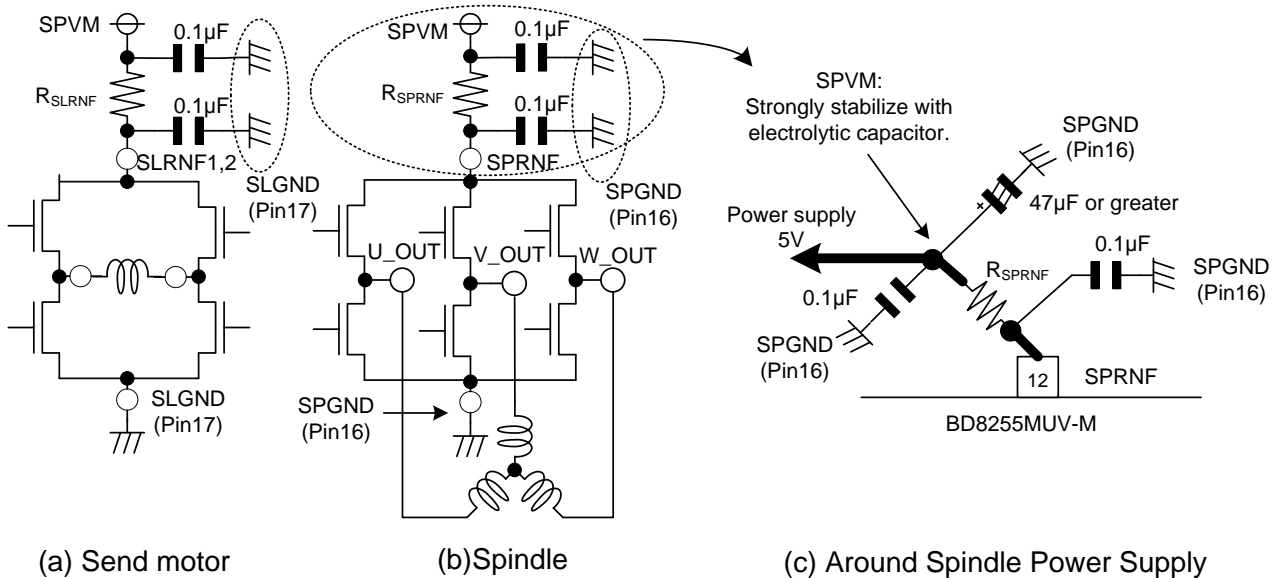

Figure 26. Position of Ceramic Capacitors
- (2) Provide a low ESR electrolytic capacitor between the power terminal and the ground terminal of the driver to achieve strong stabilization. Provide a ceramic capacitor with good high frequency property next to the IC. Also provide a ceramic capacitor with good high frequency property between RNF and GND. (Figure 26.) Then power supply ripple due to PWM switching and spindle motor rotation can be reduced.